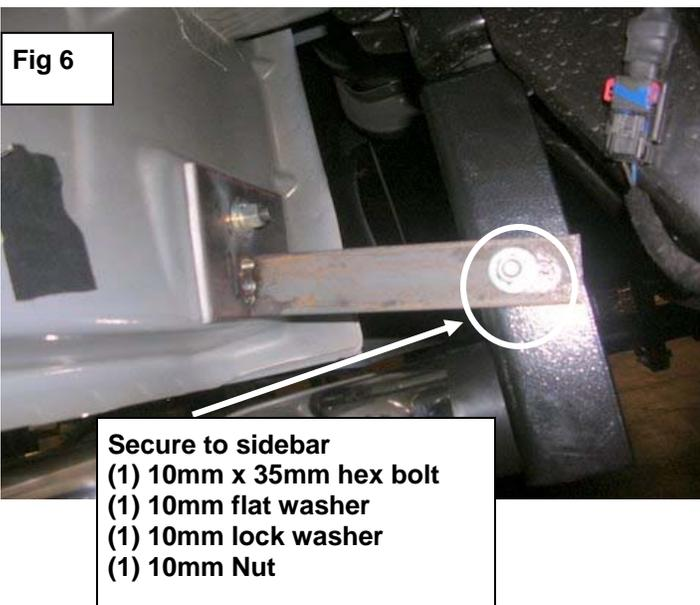

Fig 6
- Secure rear brace bracket, to the installed rear mounting bracket with (1) 10mm x 35mm hex bolt, (2) 10mm flat washers, (1) 10mm lock washers and (1) 10mm Hex Nuts, **(Fig 6)** shows brace bracket attached . Snug but do not tighten hardware at this time.